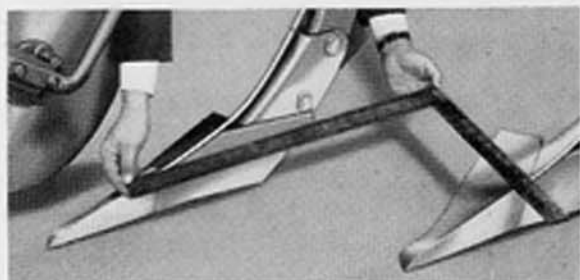

Fig. 15D
6. Check the width of cut by placing a carpenter's square along the landside of the front bottom, Fig. 15d, and measure to the outside of the rear bottom landside. This dimension should be 14" plus or minus  $\frac{1}{4}$ " for 14" plows and 12" plus or minus  $\frac{1}{4}$ " for 12" plows.